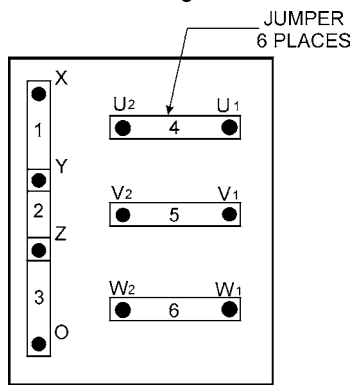

Figure 17. Voltage ChangeOver Board 240V Configuration
Various output voltages can be obtained using the UVWO output terminal lugs. The voltages at the terminals are dependent on the placement of the jumpers plates (6) on the **Voltage ChangeOver Board** (Figure 17) and the adjustment of the **Voltage Regulator Control Knob**.
1. Jumper the voltage changeover board for 240V operation as shown in Figure 17.
1. Make sure the voltage changeover board is jumpered for 240V operation as shown in Figure 17.